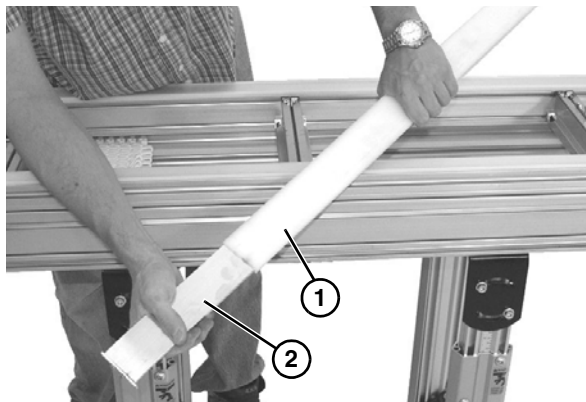

Figure 29
5. Remove the center wear strip (**Figure 29, item 1**) from the center frame channel (**Figure 29, item 2**).